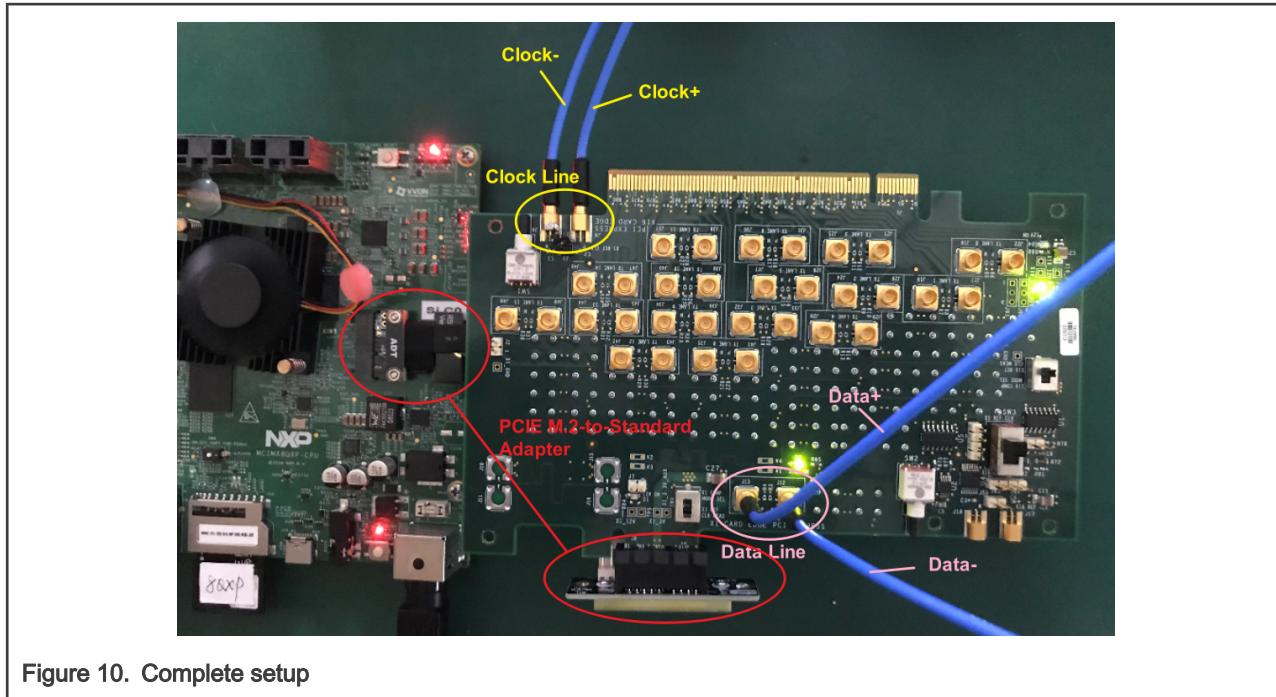

Figure 10. Complete setup
8. Figure 10 shows the complete setup.